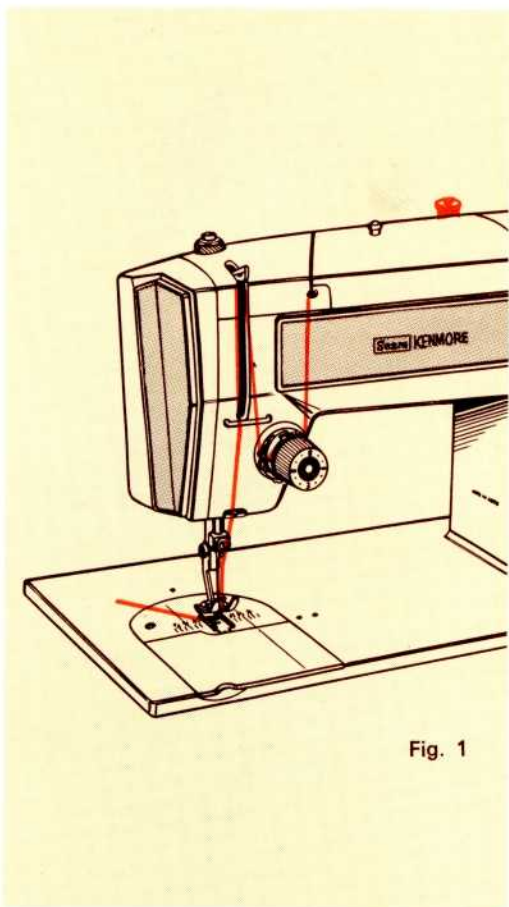

Fig. 1
1. Draw thread from spool through bobbin winder tension disc as shown in Fig. 1.